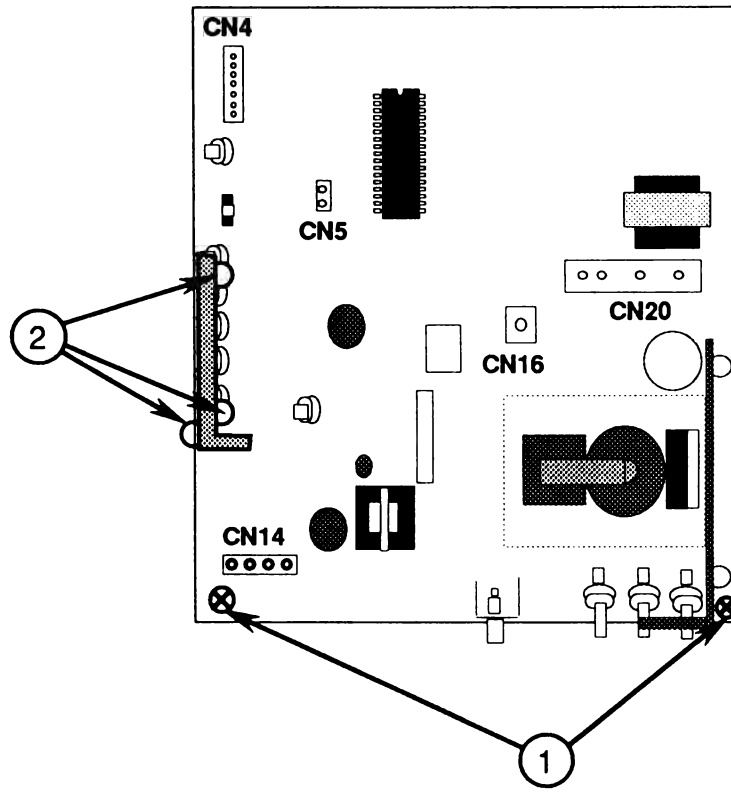

FIGURE 22
- e) Replace the two screws (Figure 22, #1) at the rear corners of the main logic PCB.
- g) Replace the three mounting screws (Figure 22, #2) that secure the power supply board bracket to the chassis frame.